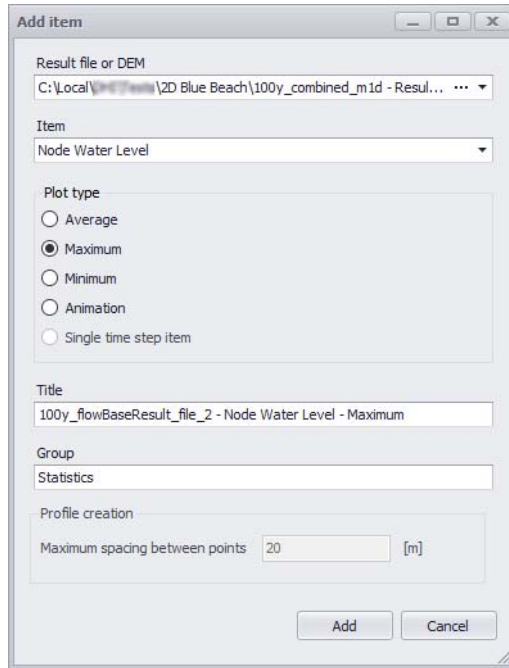

Figure 20.35 The 'Add item' dialog where the result file and items to add to the profile plot are defined
- Specify the result file, item, and data type to add to the profile plot on the 'Add item' dialog that appears (Figure 20.35).